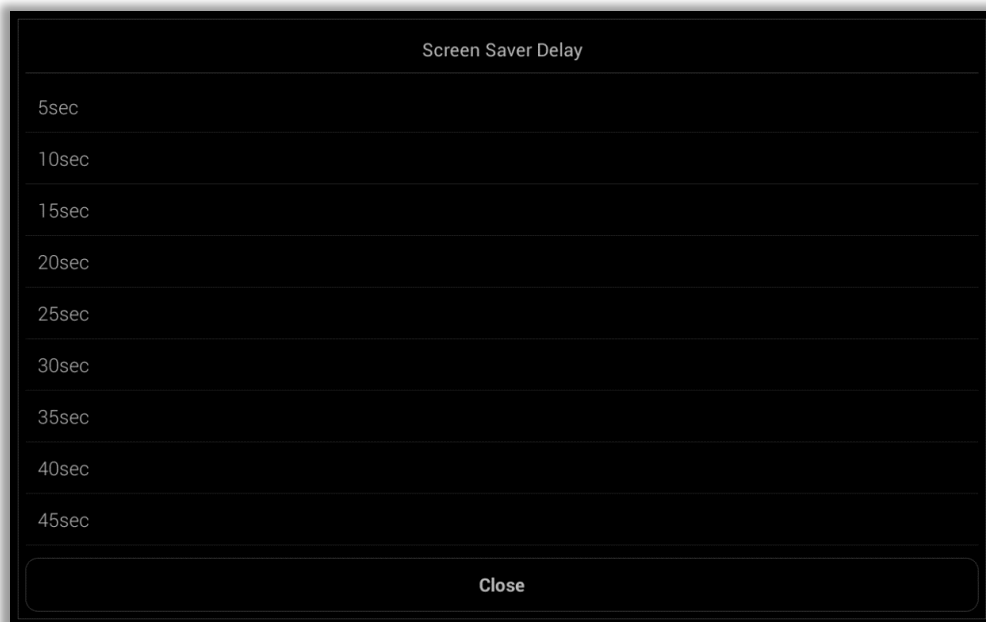

Fig. 68 : Screen Saver Delay List
- 2 By pressing this touch button, the screen saver delay time is set. After pressing the button, the screen saver delay time list in Figure 68 is displayed.